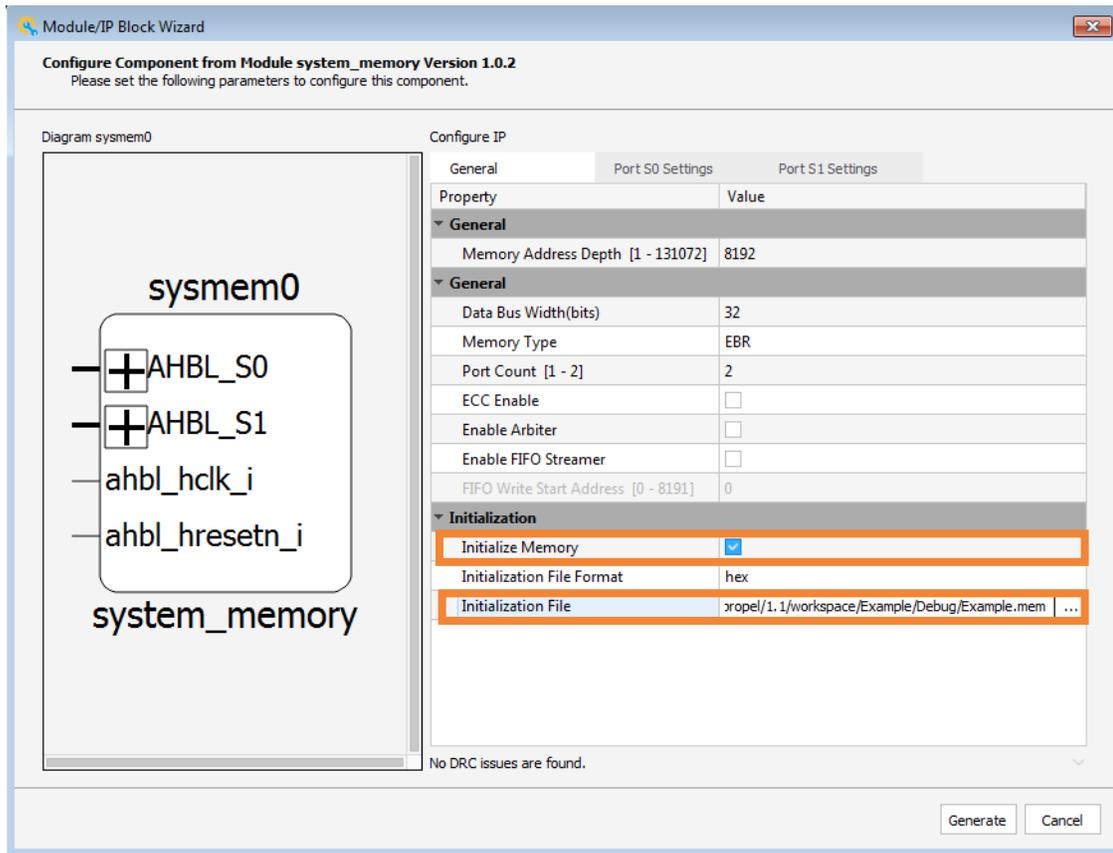

Figure 3.29. Configure Module System Memory
- Enable the checkbox for **Initialize Memory** for *system_memory* IP module from the **Initialization** area of the **General** tab, and set **Initialization File** generated from the corresponding C project (Figure 3.29).